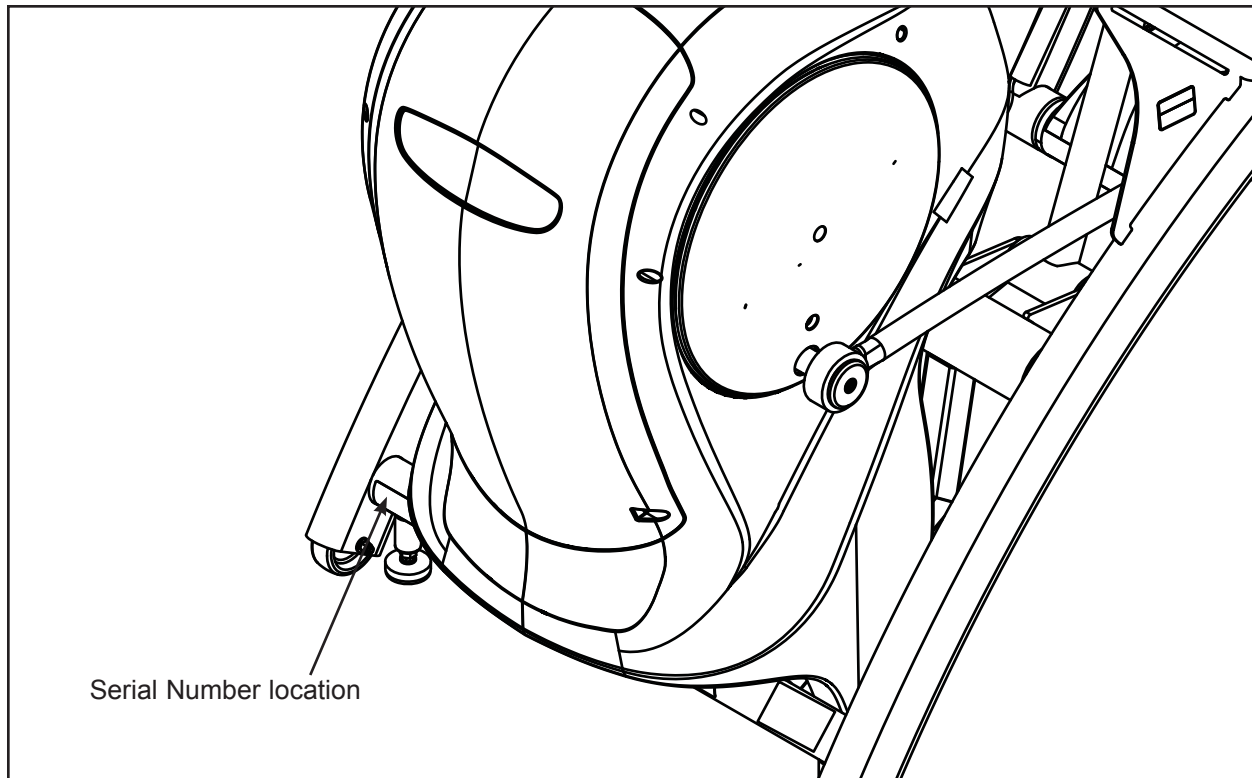

Figure 1
The serial number is located on the unit as shown in Figure 1.
3. Provide the model and serial number. *The serial number is located on the front of the unit as shown in Figure 1.* The serial number begins with a letter, for example: R09-101331100.